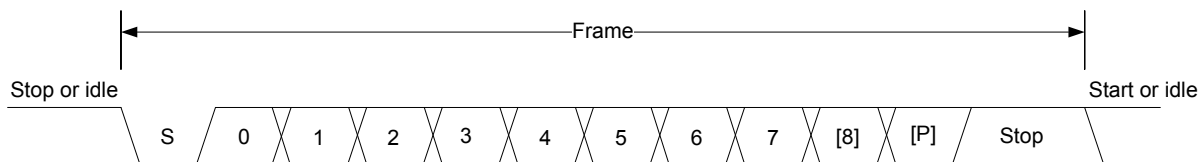

Figure 19.2. LEUART Asynchronous Frame Format
The frame format used by the LEUART consists of a set of data bits in addition to bits for synchronization and optionally a parity bit for error checking. A frame starts with one start-bit (S), where the line is driven low for one bit-period. This signals the start of a frame, and is used for synchronization. Following the start bit are 8 or 9 data bits and an optional parity bit. The data is transmitted with the least significant bit first. Finally, a number of stop-bits, where the line is driven high, end the frame. The frame format is shown in Figure 19.2 LEUART Asynchronous Frame Format on page 586.